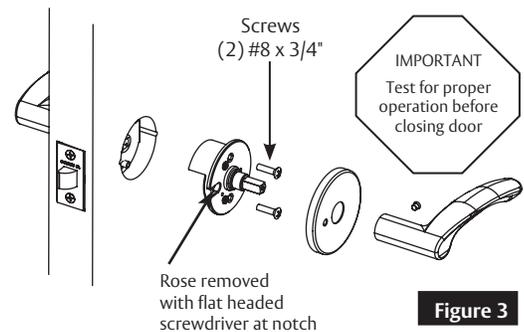

Figure 3
3. Install inside mounting plate assembly using (2) #8-32 x 3/4" screws. Note location for set screw, see Figure 3.